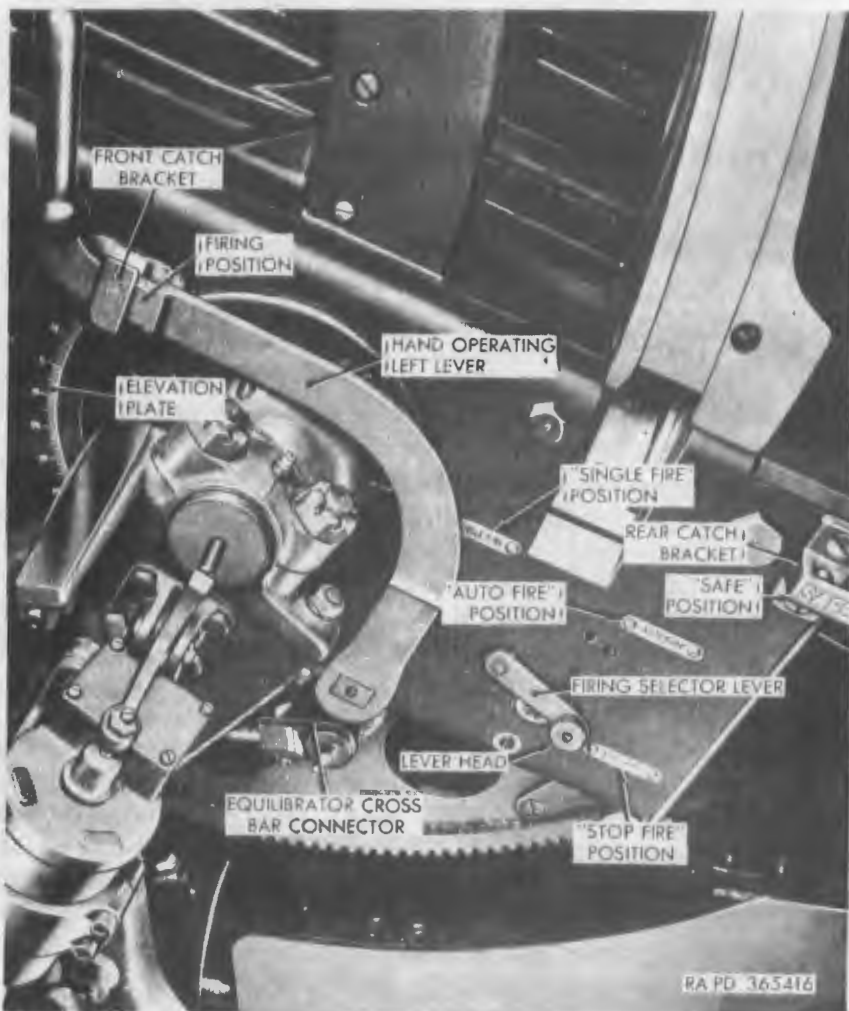

Figure 33. Hand operating lever in firing position (left).
a. *Hand Operating Levers* (fig. 33). A hand operating lever is provided on each side of the dual gun. The lever on the left side operates the left gun and the lever on the right side operates the right gun. The function of each lever is to prepare its gun for firing. Movement of the lever to the rear opens the breech, cocks the firing assembly and rammer shoe, and releases the ammunition feed rollers. The hand operating lever is also used to recock the gun and remove the complete round in case of a misfire. A rear catch bracket marked **SAFE** is provided to hold the hand operating lever in the rear position when desired.
b. *Firing Selector Levers* (fig. 33). A firing selector lever is provided on each side of the dual gun. Each lever has three positions and the setting is altered for the desired operation. STOP FIRE, SINGLE FIRE, or AUTO FIRE, will prevent firing, allow single fire, or allow automatic fire respectively. The firing selector lever is locked in position by a spring-loaded plunger and unlocked by pulling out on the lever head. When the firing selector lever has been moved to a desired setting, the spring-loaded plunger must be fully engaged.